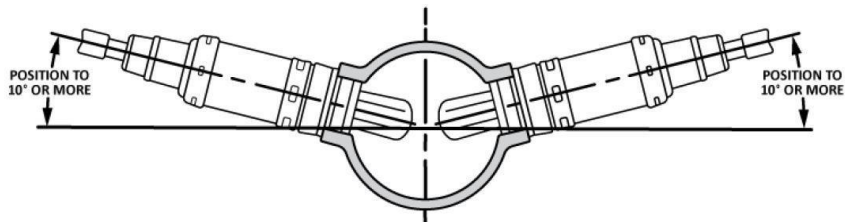

Figure 2
2. Ensure the location for the sensor is at the angle in **Figure 2**. This will help prevent condensation in the exhaust tubing from entering the sensor. The sensor can be mounted on either side of the tubing.
1. Locate a place in the exhaust to drill a 3/4" hole. Make sure to allow enough clearance for an O2 sensor and wiring harness. It is important to keep the O2 bung (**Item 2a**) at least 12 inches from open exhaust. Ensure the location for the sensor is at an angle (**Figure 2**). This will help prevent condensation in the exhaust tubing from entering the sensor. The sensor can be mounted on either side of the tubing.
2. Mark the center of the casting on the exhaust tube and drill a 3/4" hole. Deburr the hole after drilling (**Figure 2**).